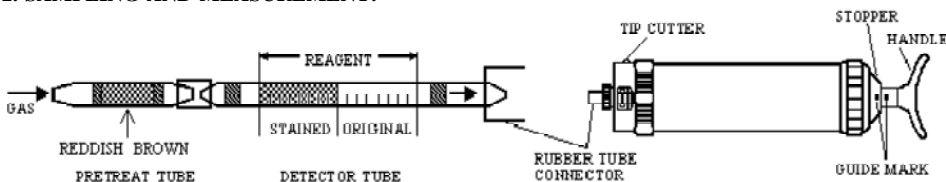

Fig.1
- ① Break both ends of a new detector tube (I) and pretreat tube (II) by using the tip cutter, and connect each end of the detector tube (I) and pretreat tube (II) with rubber tube as shown in Fig. 1. (Arrow mark shall point to the pump)